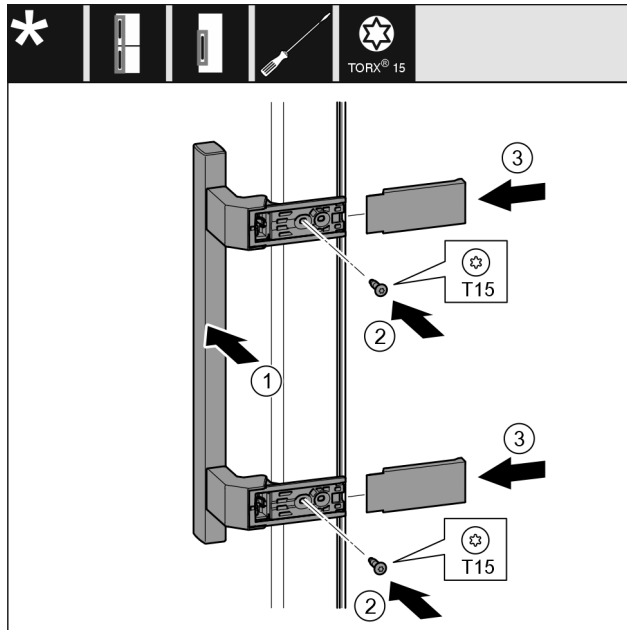

Fig. 41
- Place the handle Fig. 41 (1) on the opposite side.
- Tighten screws Fig. 41 (2) with screwdriver.
- Place the covers Fig. 41 (3) on the side and push them on.